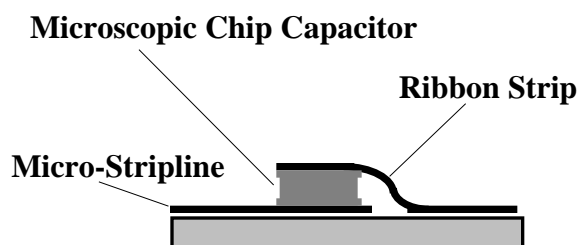

Figure 23.
*The large white pointer in this photo shows where to solder to the "tuning tabs" on the gate of the final GaAsFET. The areas that are circled in these photos are stripline capacitors (see figure 23). These areas should be avoided as the capacitors are easily destroyed by heat or pressure. See text for adjustment procedures. The rectangle shows unused tuning tabs.*